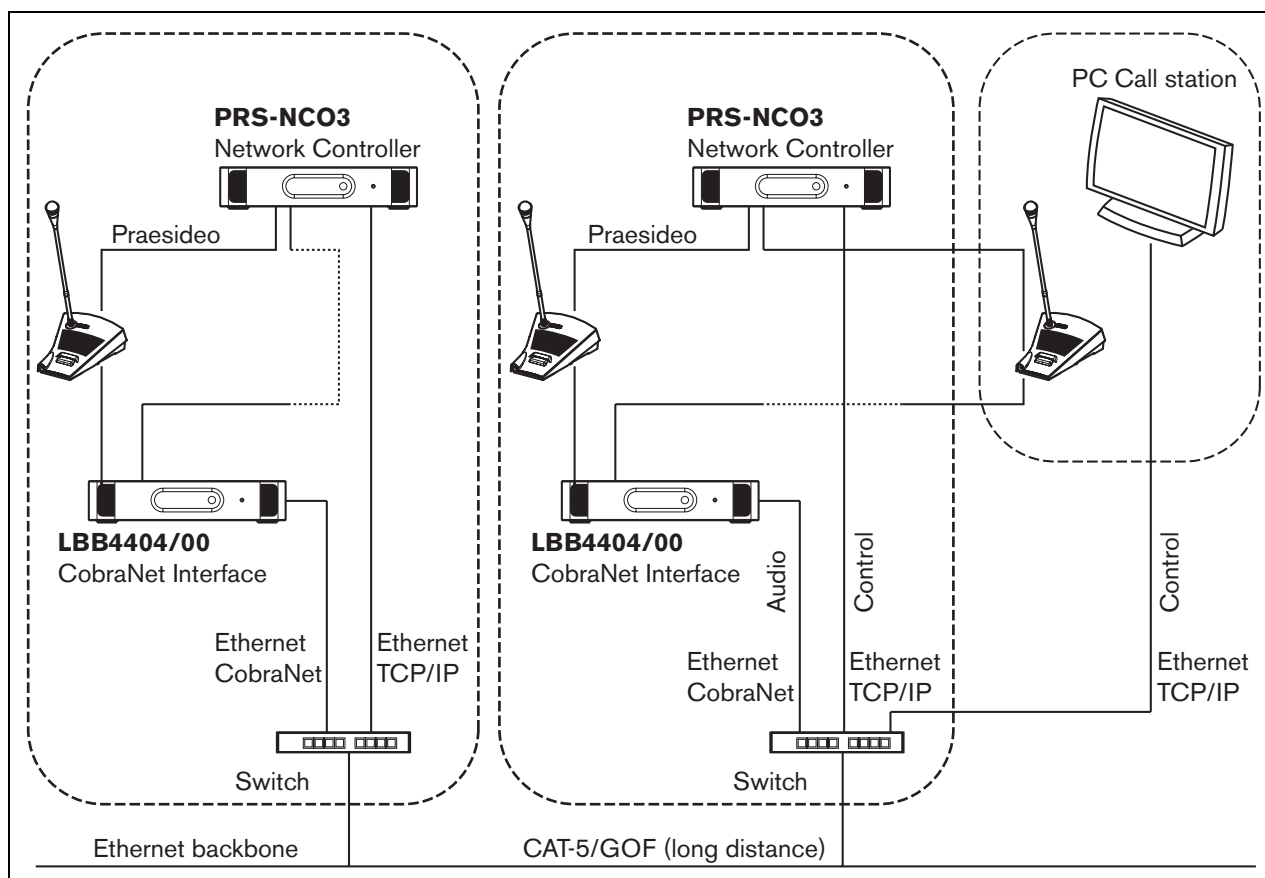

figure 33.4: Connecting systems
- Connect Praesideo systems (see figure 33.4 for an example).